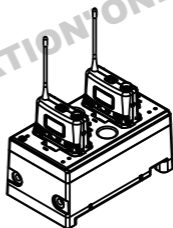

Fig. 30:
3. MP-80 dual-docking battery charger, Fig. 30.